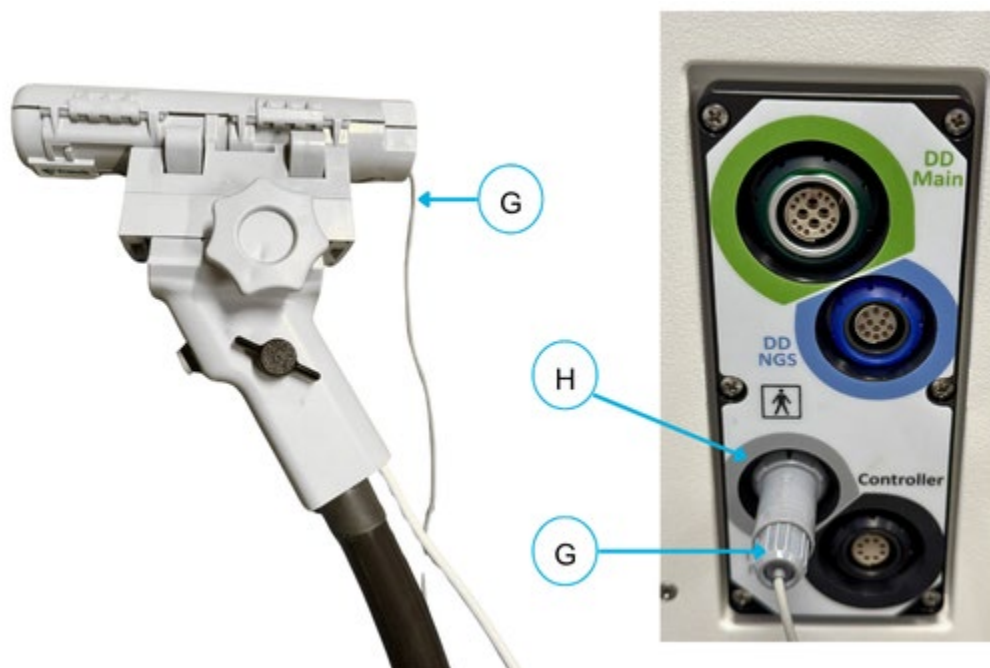

Figure 10-30: TRUS Cradle NGS Connection to Generator
5. Plug the larger white TRUS Cradle cable (D) into the cable connection port (E) until firmly seated.
- The blinking indicator light (F) will turn solid green
6. Pass the connector end of the small gray TRUS NGS cable (G) outside the sterile field to the Generator.
7. Locate the gray port (H) labeled "TRUS NGS" on the Generator (**Figure 10-30**).
8. Firmly plug the TRUS NGS cable into the gray port (H) until it is fully seated.